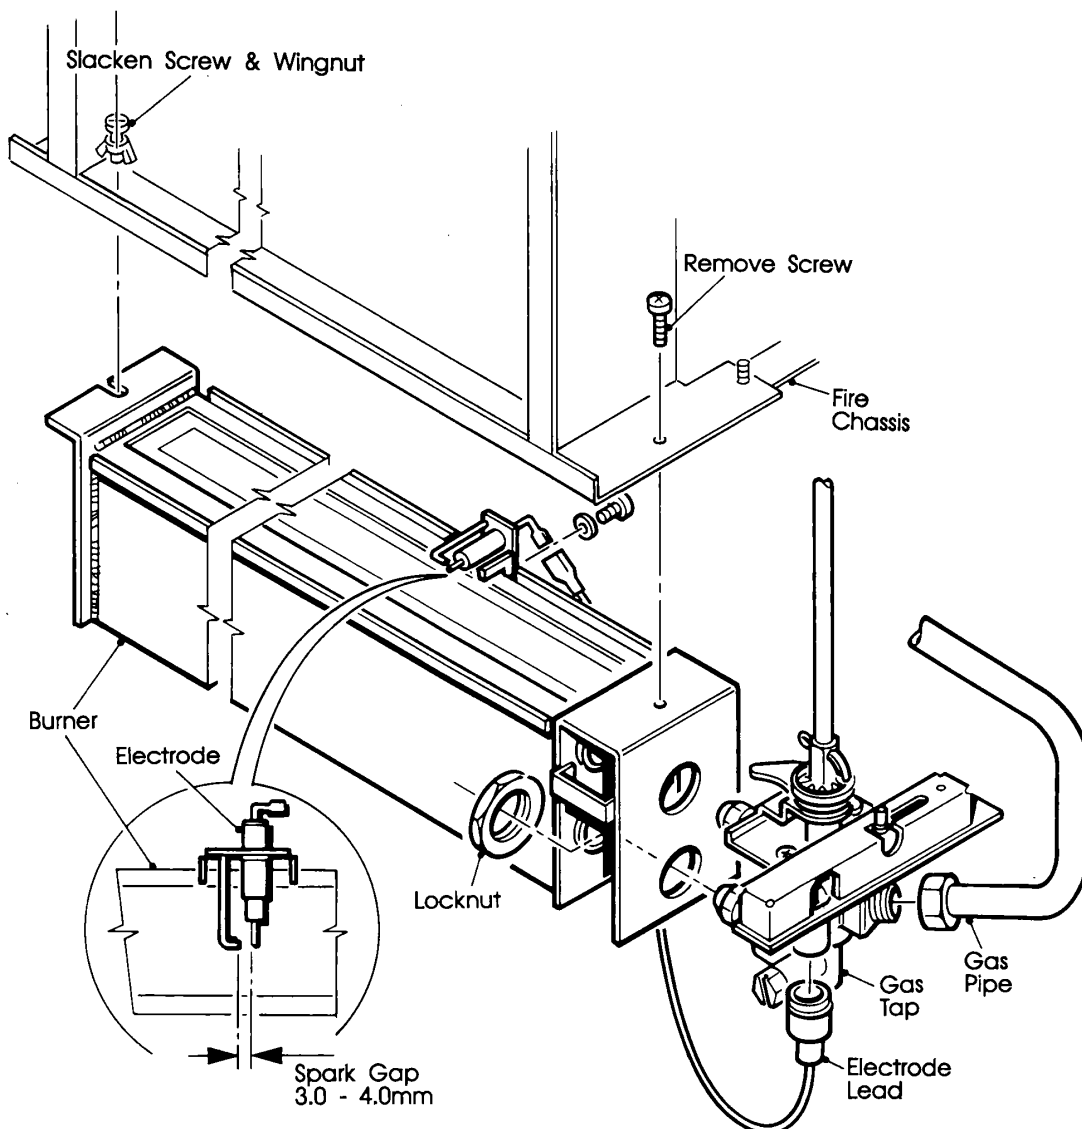

Fig. 22
- b) Remove the nut and washer securing the electrode to the burner. The spark gap at the electrode should be 3-4mm. See Fig. 22.